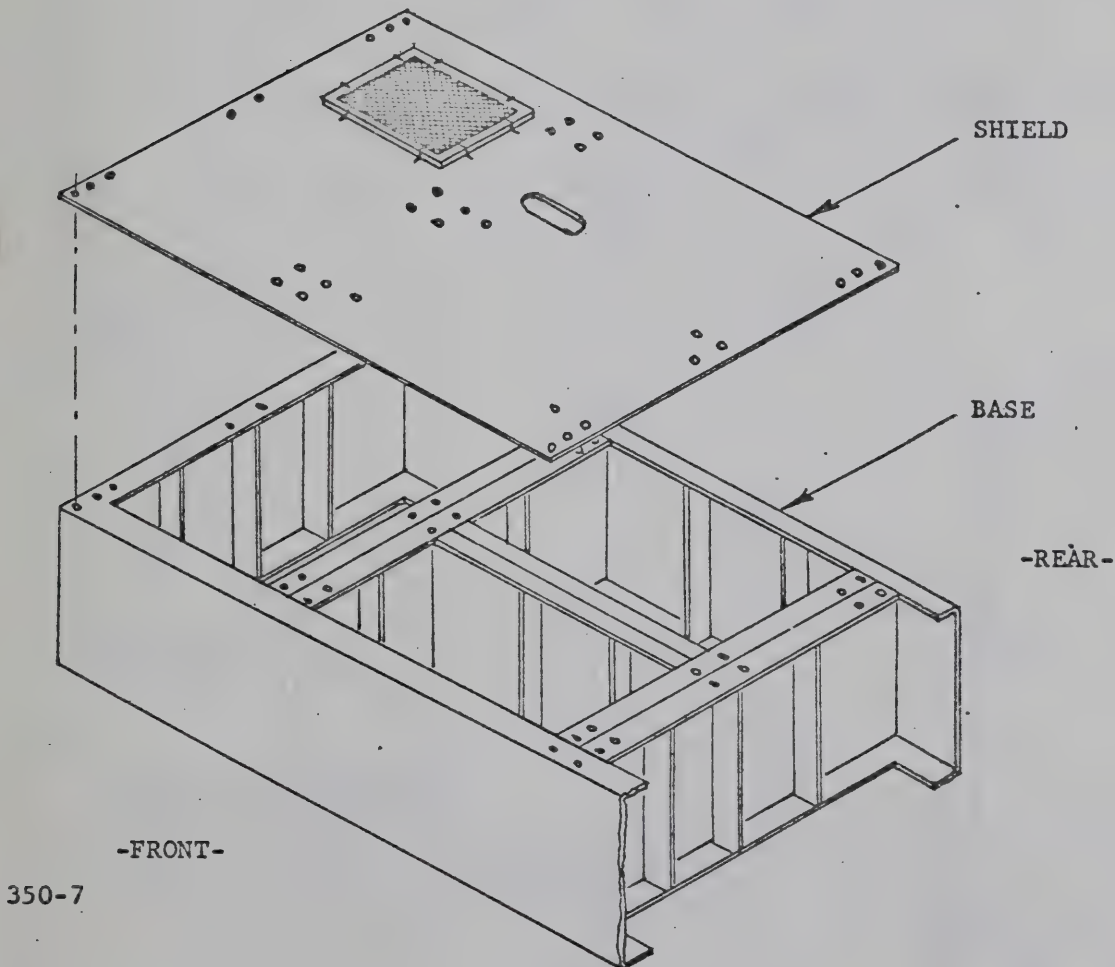

Figure 4-1. Base Shield, Installation Diagram.
- b. Properly position shield, figure 4-1, on base assembly; route all cables through their respective holes in the shield (see figure 2-1).